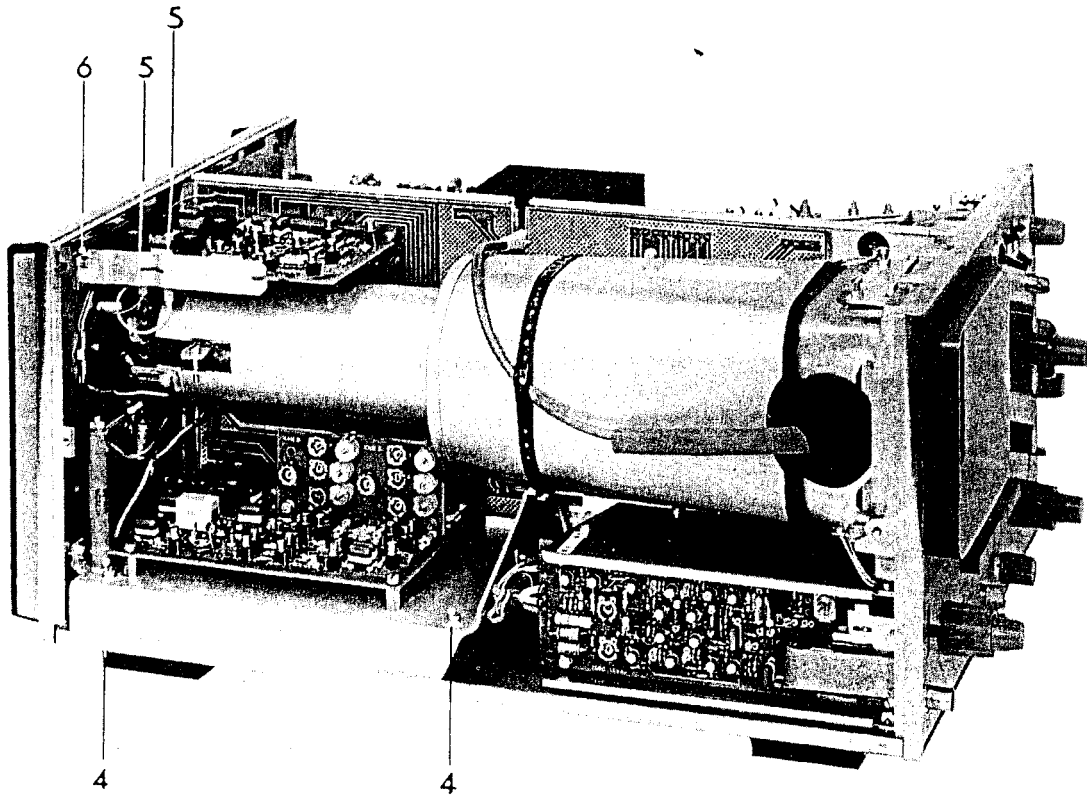

Fig. 34. Dismantling; left-hand side view
F. REMOVING VERTICAL AMPLIFIER UNIT 4 (Fig. 34)
G. REMOVING HORIZONTAL AMPLIFIER UNIT 7 (Fig. 34)